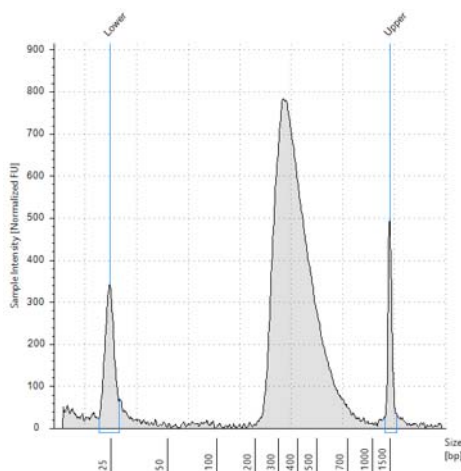
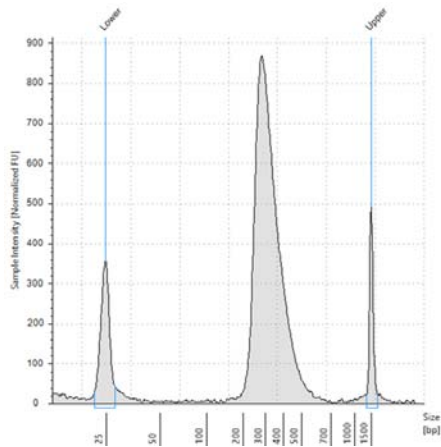

Figure 4 Post-capture library prepared from an intact RNA sample analyzed using a High Sensitivity D1000 ScreenTape assay.
Figure 5 Post-capture library prepared from a typical FFPE RNA sample analyzed using a High Sensitivity D1000 ScreenTape assay.
- 3 Verify that the electropherogram shows the expected DNA fragment size peak position (see Table 42 for guidelines). Sample TapeStation system electropherograms are shown for libraries prepared from high-quality intact RNA in Figure 4 and from FFPE RNA in Figure 5.